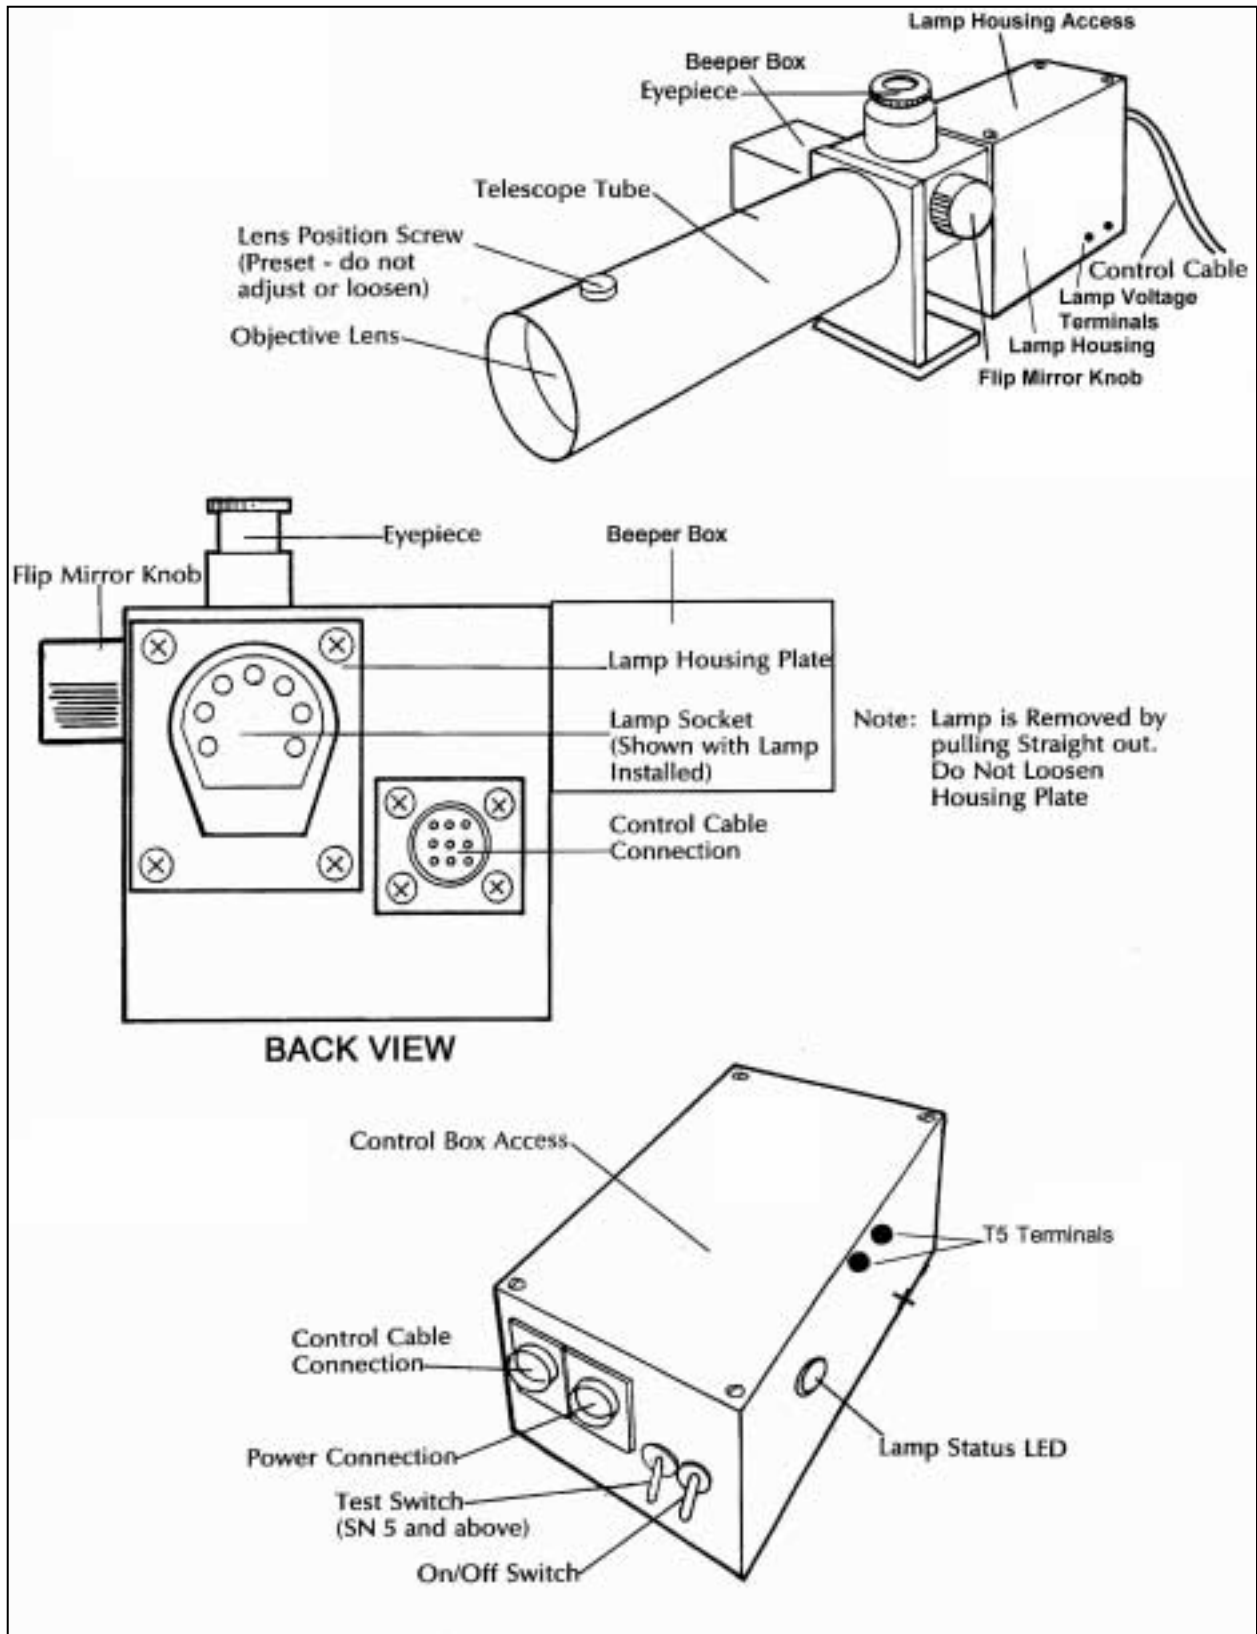

Figure 4-1. Transmitter Component Diagram.
- Remove the screws on the top plate of the control box (see Figure 4-1, Transmitter Component Diagram).
- Remove the transmitter lamp housing access top cover (see Figure 4-1, Transmitter Component Diagram).
- Is the lamp fully seated and are the lamp pins making good contact in the lamp socket? After removing the transmitter lamp housing top cover (see Figure 4-1, Transmitter Component Diagram), look at the two wires that connect to the lamp socket. If either wire is not fully inserted into the socket, disconnect the power cable at the lamp housing and remove the lamp. From the inside of the lamp housing, press both wires firmly back into the lamp socket. Replace the lamp and retest the transmitter.